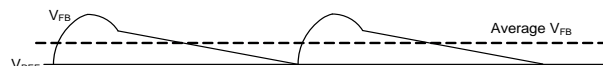

Figure 3: Average V_{FB} in Sleep Mode
As the load decreases, the output voltage ripple (ΔV_{OUT}) increases and drives the EA output (EAO) low. If the EAO reaches its internal low threshold, then it clamps at this level and the device enters sleep mode. During sleep mode, the valley of the feedback (FB) voltage (V_{FB}) is regulated to the internal reference voltage (V_{REF}). This means that the average V_{OUT} is slightly exceeds the V_{OUT} in discontinuous conduction mode (DCM) or continuous conduction mode (CCM). The on-time pulse in sleep mode slightly exceeds that in DCM or CCM. Figure 3 shows the relationship between the average V_{FB} and V_{REF} in sleep mode.